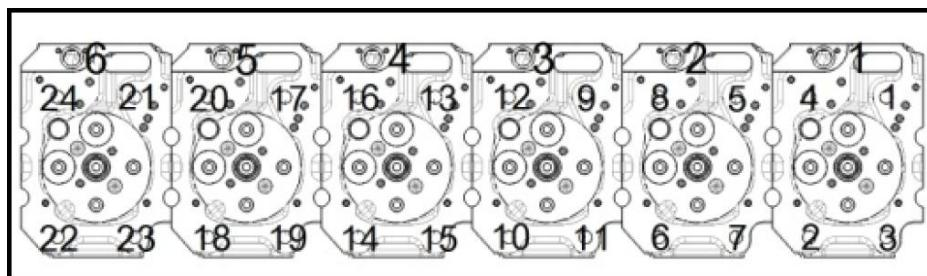

Figure 65. Main Bolt Torquing Order
3. Lightly oil the threads and shoulder of the cylinder head main bolts (Figure 65, Item 5) and cylinder head secondary bolts (Figure 65, Item 1). Lightly oil the clamping block (Figure 65, Item 3) and end plate (Figure 65, Item 4) and insert.
5. Tighten the main bolts in order (Figure 65) 1 through 24 to a torque of 59 lb-ft.